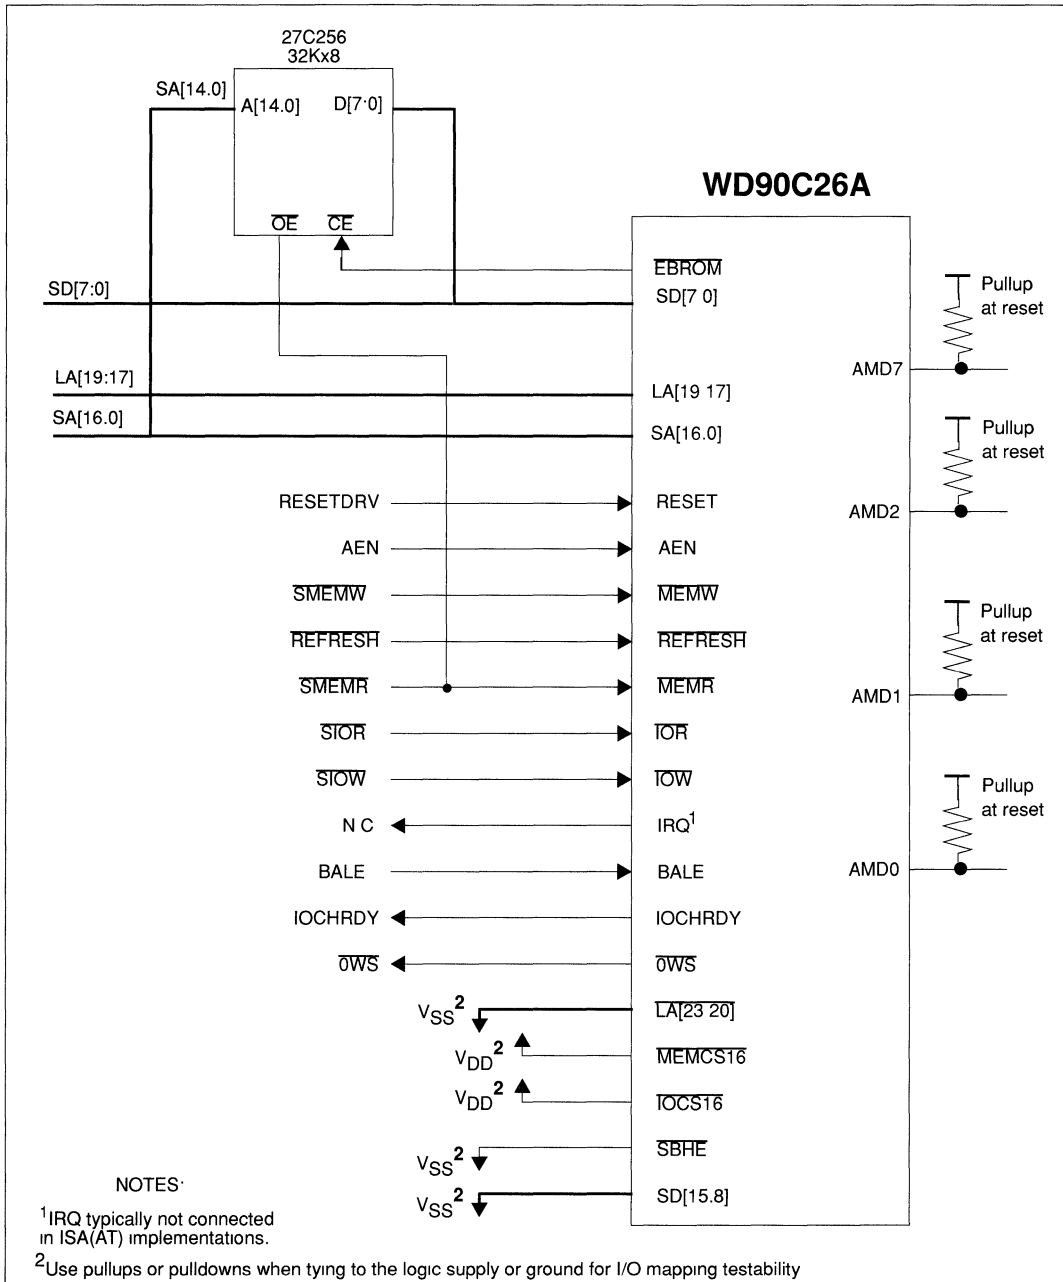

FIGURE 6-8 8-BIT ISA BUS (AT) INTERFACE
- 8-Bit ISA Bus (AT) Interface with 8-Bit BIOS, Figure 6-8.
Figure 6-8 shows a typical 8-bit ISA Bus (AT) interface. The system data bus SD(7:0) and address bus SA(19:0) are shown with the BIOS ROM.